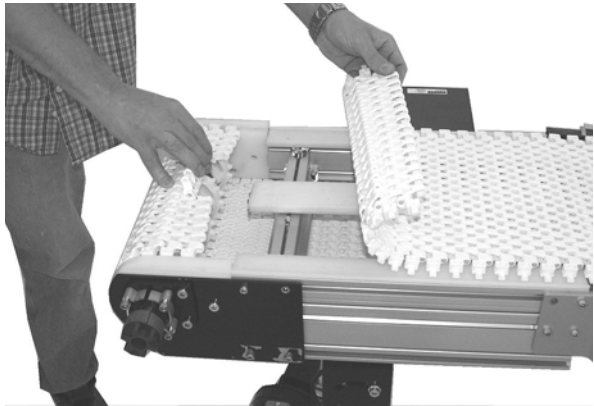

Figure 19
- Bring the ends of the belt together (**Figure 19**).